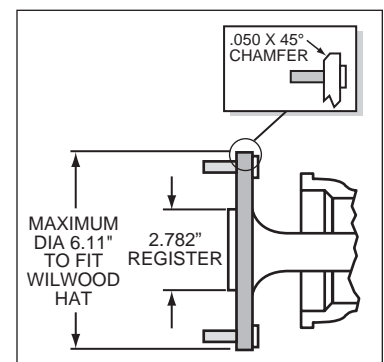

Figure 2. Axle Flange Maximum Dimension
- Maximum axle flange diameter must be no larger than 6.11" w/.050" x 45° chamfer (Figure 2).